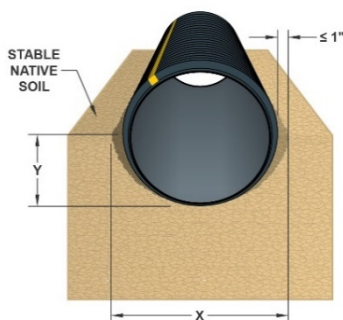

Figure 2: Rounded Trench for 8”- 60” Pipe
- For pipe diameters of 8” and greater, a rounded trench bottom should be used as shown in Figure 2. The rounded trench bottom should fit the outside of the pipe as close as possible, with a maximum gap of less than 1” on either side of the pipe, to provide sufficient pipe support. Recommended dimensions are found in Table 1 which are based off of standard pipe outside diameters.